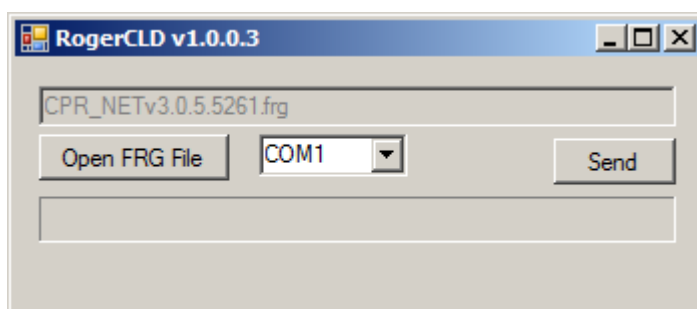

Fig. 13 Roger CLD software window
2. Start Roger CLD software (see fig. 13).